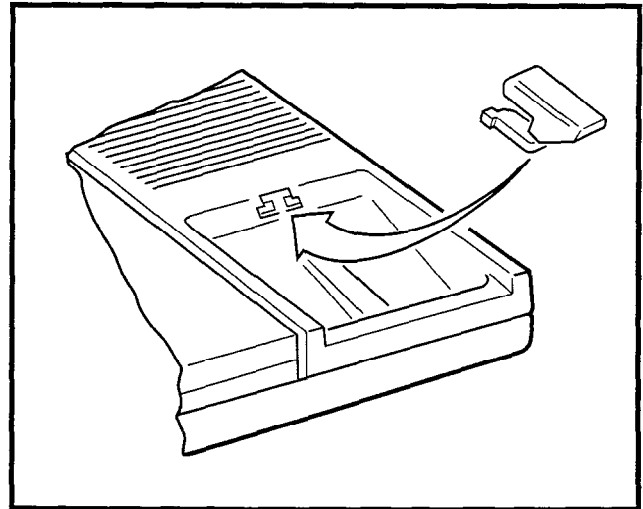

FIGURE 4-44—REMOVAL OF HANDSET HANGER
6.13 Using a cutter, remove the handset hanger from the base. Insert the handset hanger in the slot provided on the front of the telephone (Figure 4-44). The hanger fits in the notch on the handset.